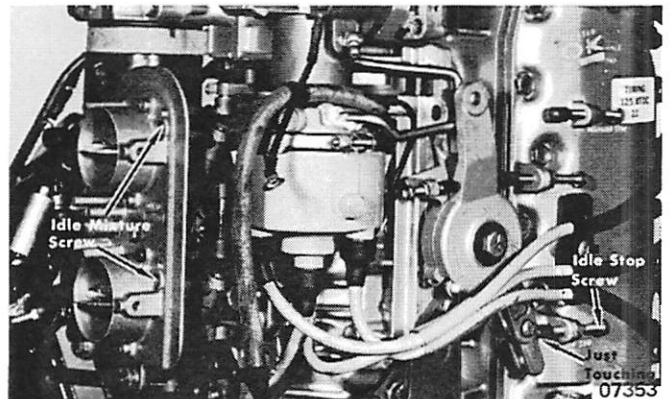

Figure 5. Adjusting Idle Stop Screw
2. Set idle mixture and adjust idle stop screw to 550-600 RPM in forward gear. (Figure 5)